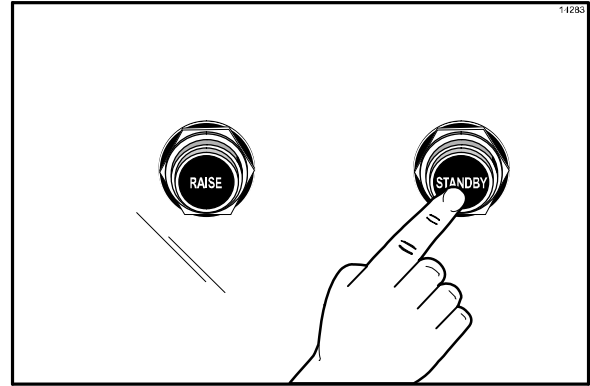

Figure 25
4. Press the Standby button to close the platen. (See Figure 25.)